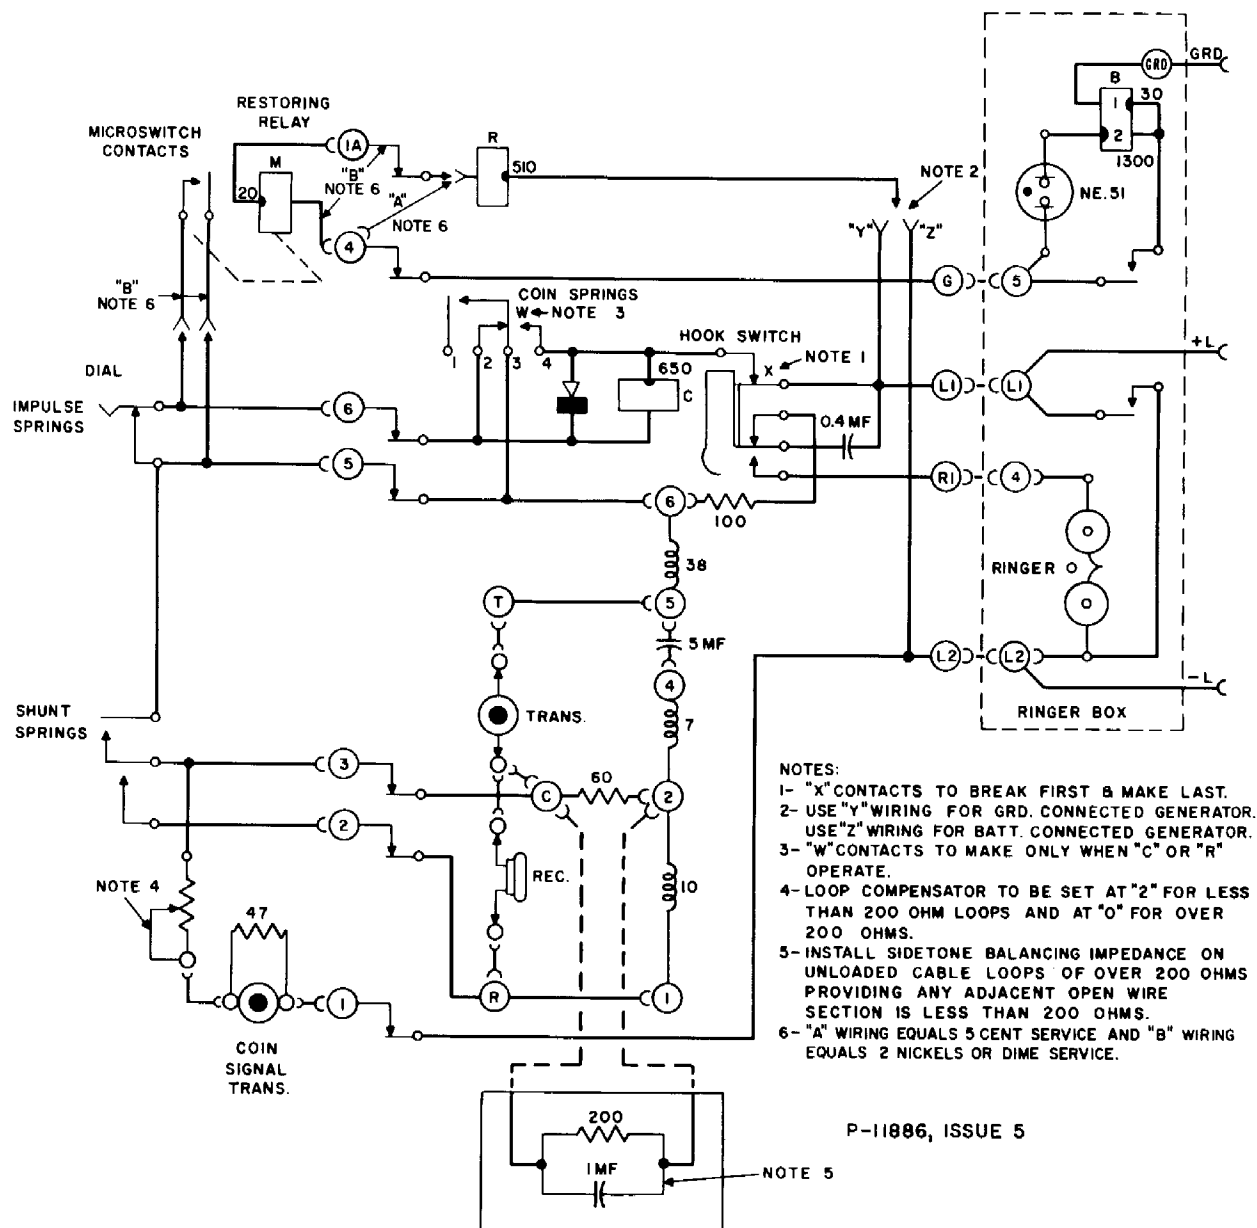

Figure 16. Schematic Diagram for Type LPA 89 Local Prepay Coin Telephone.
2.29 Before testing the coin mechanism assembly electrically, set the line-compensating rheostat (on LPA 89 series) to the zero (0) position. The coin telephone should be connected to a ringer box, No. L-1510-BSL on LPA series and No. L-1510-CSL on LPB series. See Figures 16 and 17. Jumper the upper and lower housings with coin telephone test cord P-60605 (Figure 18).